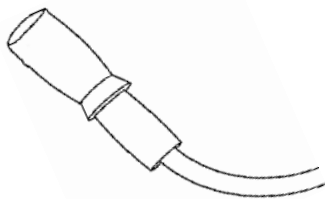

Fig. 41
- Charge the battery while it is attached to the power wheelchair. Please see Fig. 41.